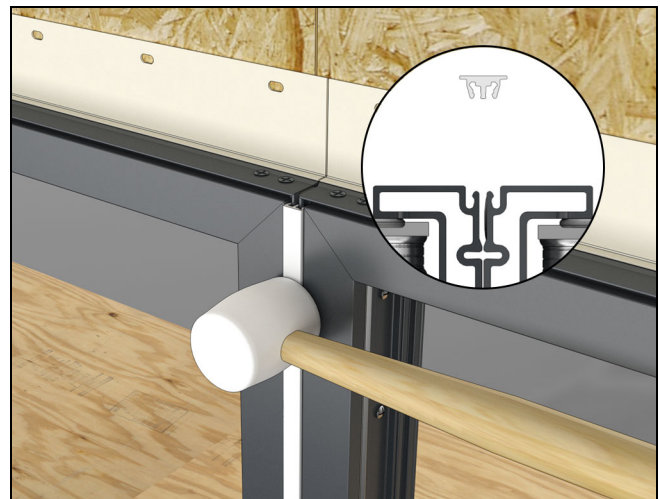
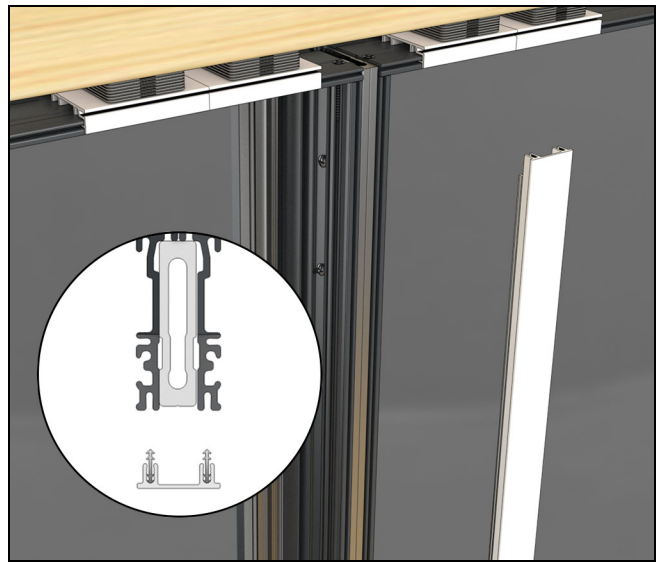

Figure 8
Figure 11
To ensure consistent alignment and reveal for the mull covers, it is critical that frames are flat and flush on both the interior and exterior. Gaps where the exterior covers install (See Figure 8) must be consistent along the entire length of each mull, and frames must be in tight contact with the mull pin where the interior covers install. See Figure 11.
3. Apply the exterior covers. These can be seated with a rubber mallet. Make sure the covers are flush to the exterior accessory kerf. See Figure 8.
5. Apply the interior aluminum covers. These are barbed on and can be seated with a rubber mallet. Make sure the covers are flush to the interior accessory kerf. See Figure 11.